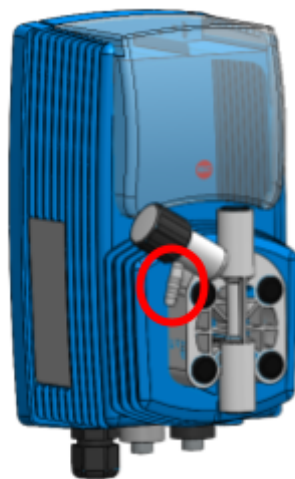

Figure 48.
- Preparation: Securely attach the tubing to the syringe and connect the other end of the tubing to the bleed nipple on the pump head (see Figure 48).